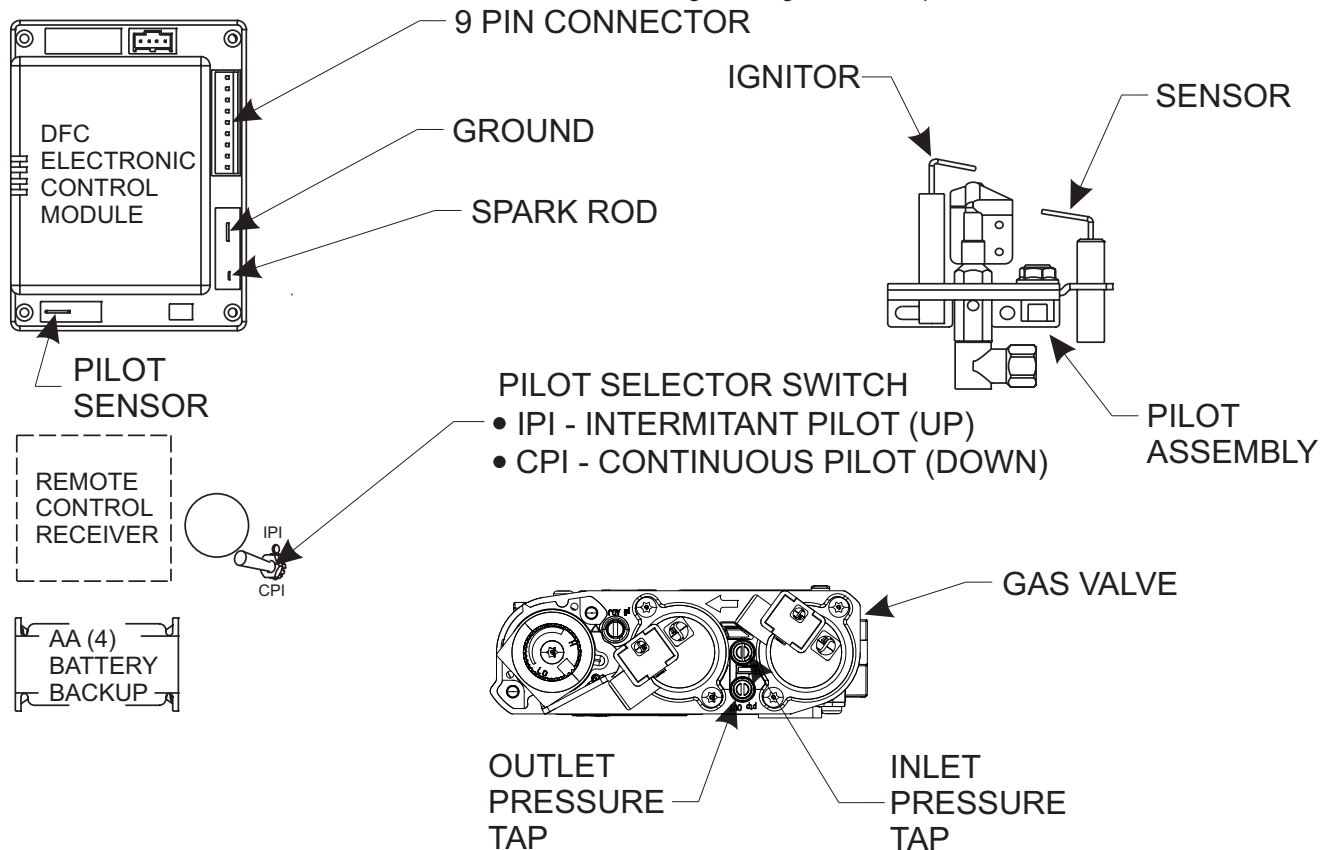

Figure 33
**NOTE:** A small toggle switch is located on a bracket that is used to switch from IPI (upward position) to the CPI (downward position). See Figure 33.
3. The gas valve has inlet and outlet pressure taps as shown in Figure 33. Refer to pages 18 and 19 for gas pressure requirements.
**NOTE:** The gas control has a manual HI/LO flame adjustment knob (regulator) that allows you to increase or decrease the height of the burner flame. See Figure 33. Rotate the HI/LO knob counterclockwise to "HI" to increase the flame height, and clockwise to "LO" to decrease the flame height.